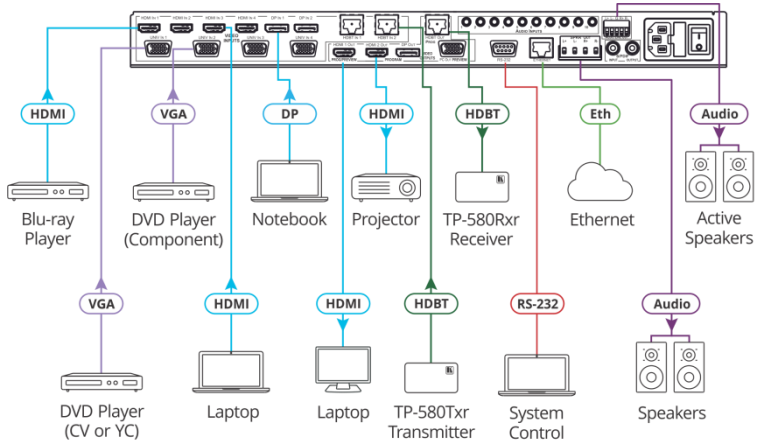

Figure 3: Connecting to the VP-733 Rear Panel
To connect the **VP-733** as illustrated in the example in Figure 3, do the following:
2. Connect audio sources to the analog stereo audio inputs (from 1 to 10), not shown in Figure 3.
- The DP OUT program connector to an HDMI acceptor (for example, a display), not shown in Figure 3
- The PC OUT PREVIEW 15-pin HD computer graphics video connector to a video acceptor (for example, an analog display), not shown in Figure 3
4. Connect the S/PDIF INPUT RCA connector to a digital audio source and the S/PDIF OUTPUT RCA connector to a digital audio acceptor, not shown in Figure 3.